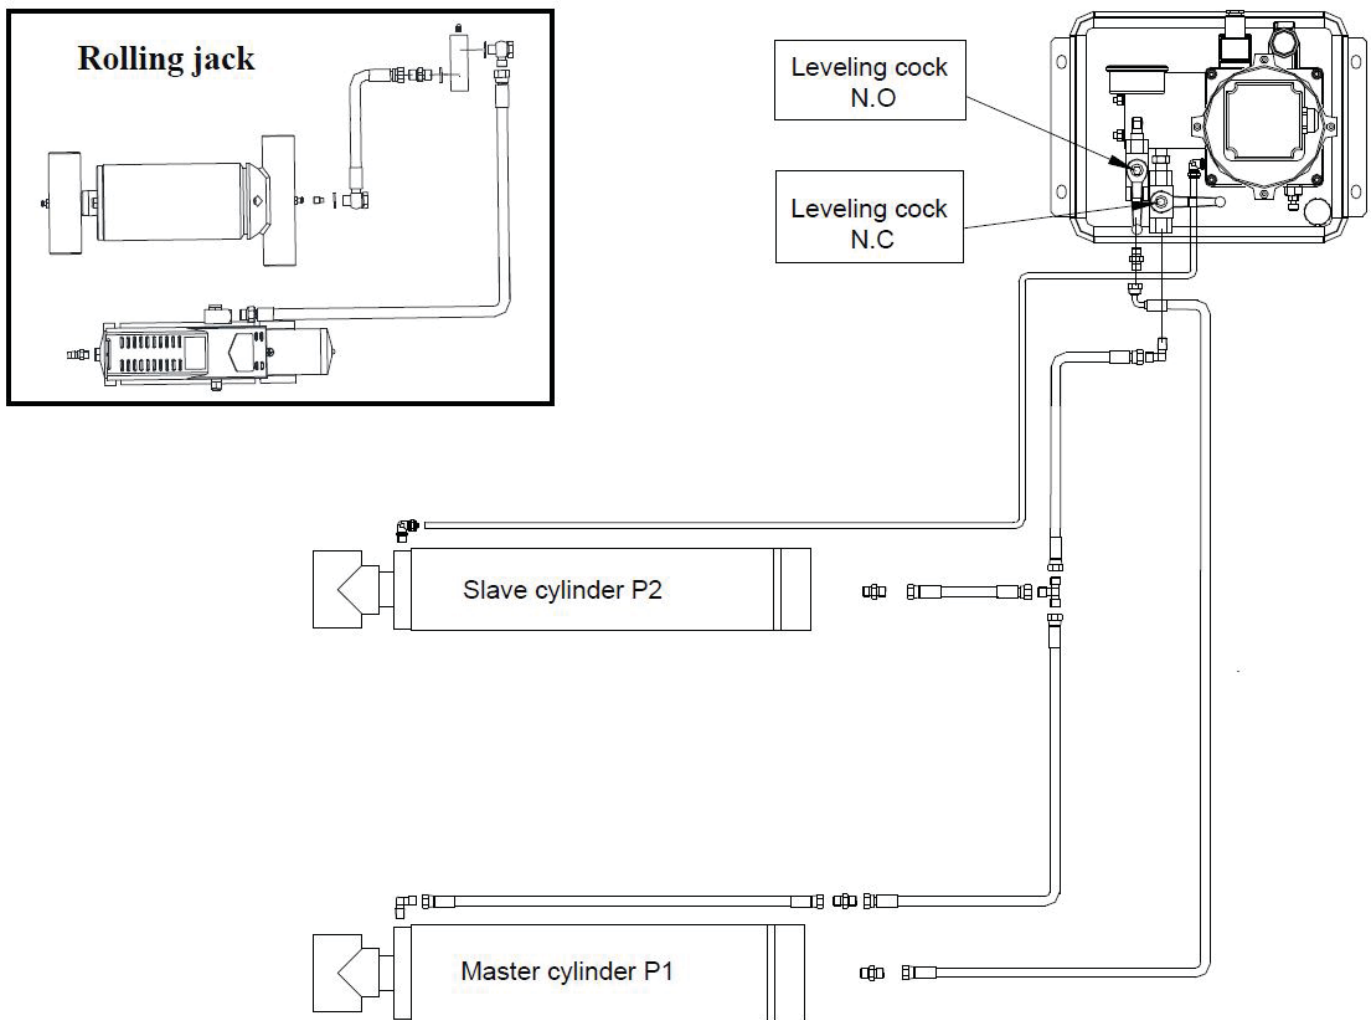

Figure 16 – Hydraulic System Connections
- Following to Figure 16 route hydraulic lines referring to the letters shown on them through the pipe into the prepared foundation;